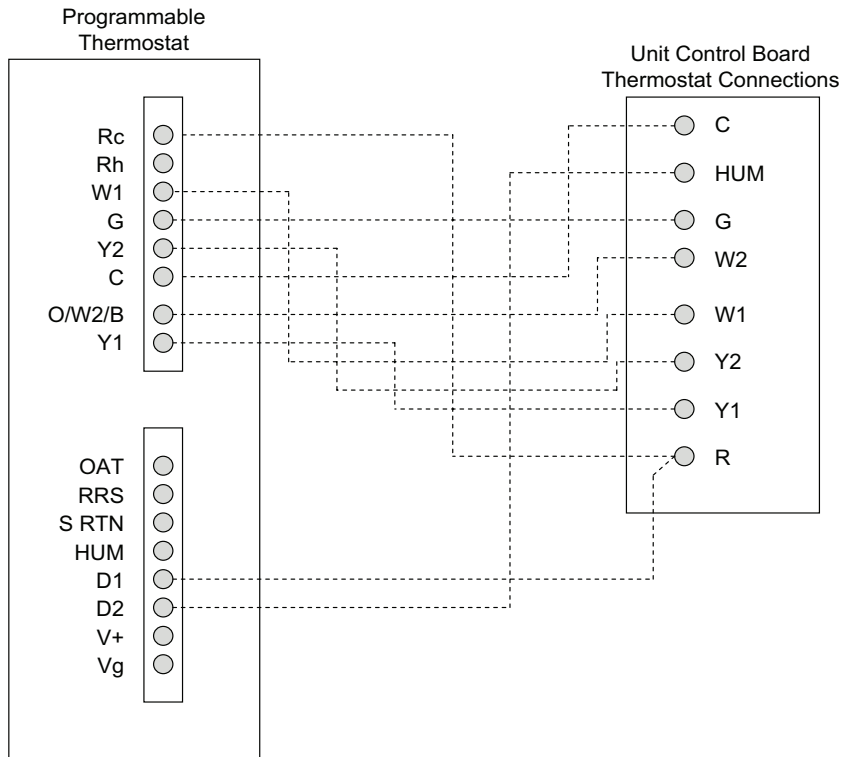

Fig. 54 — RAV210-336 Unit with Hot Gas Re-Heat Dehumidification System with Programmable Thermostat
3. The Thermidstat has dry contacts at terminals D1 and D2 for dehumidification operation (see Fig. 54). Connect D1 to the R terminal on the UCB. Connect D2 to the HUM terminal on the UCB. Refer to the installation instructions included with the field-supplied Thermidstat device for more information.